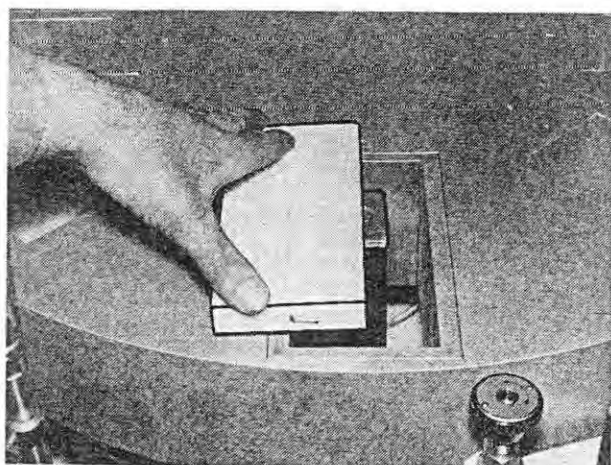

Fig. 158
22. Slip the associated cell bottom on the guide rod (Figure 158).